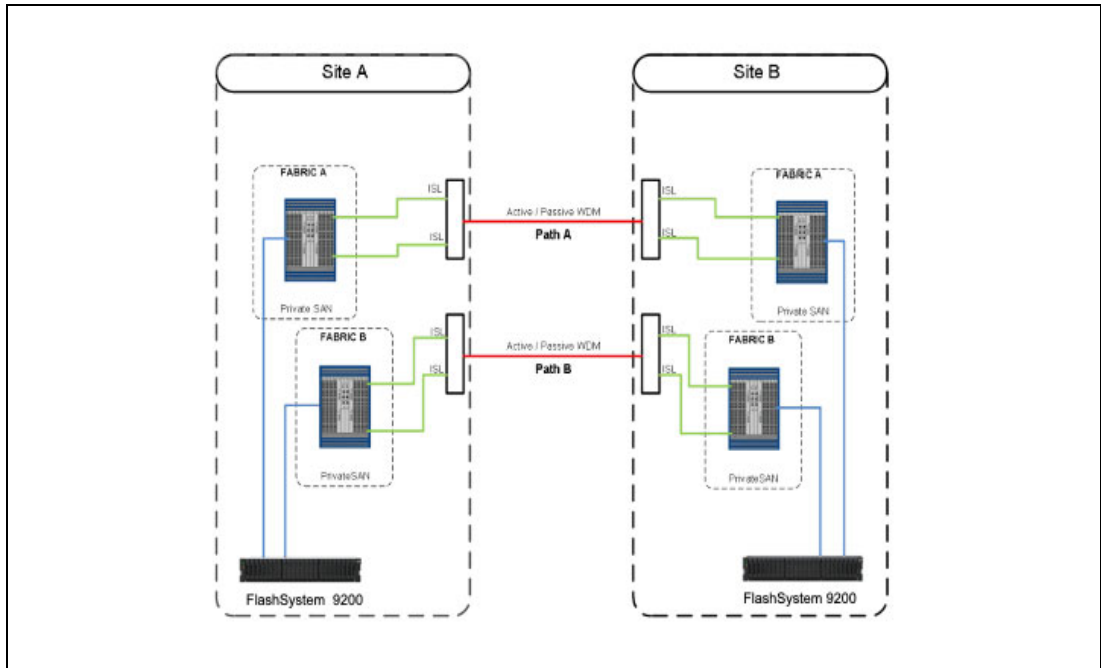

Figure 2-18 Configuration 2: physical paths not shared among the fabrics
- In Configuration 2, shown in Figure 2-18 on page 59, ISLs of fabric A are attached only to Path A, while ISLs of fabric B are attached only to Path B. In this case, the physical paths are not shared between the fabrics.